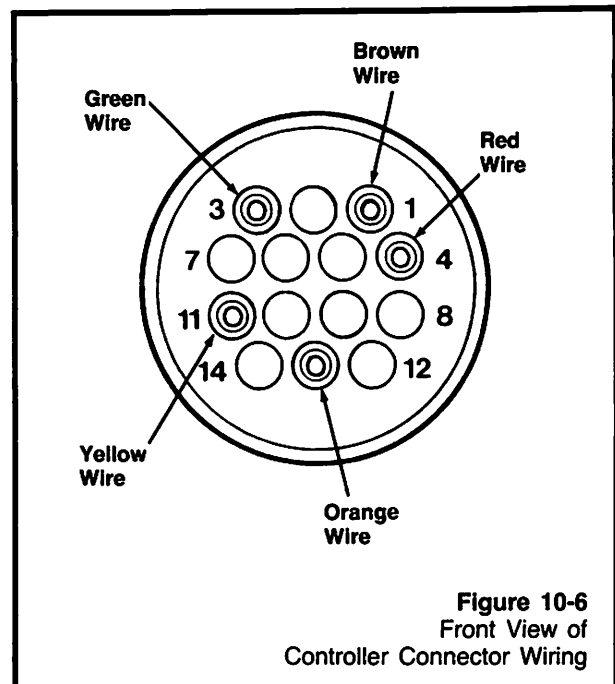

Figure 10-6
(Figure 10-6)
5. Note the pin locations (Figure 10-6). Cut the cable tie if necessary for easier access to the wiring.
1. Position the pin of each wire in the connector correctly (Figure 10-6).
3. Check each of the five pins from the front of the connector to make sure they are positioned correctly (Figure 10-6).